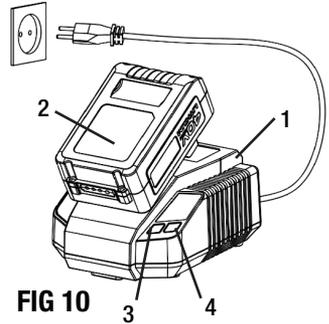

FIG 10
### CHARGING THE BATTERY (FIG 10)
- Plug the charger (1) into a 120 Volt AC power source. The green light (3) will illuminate for 5 seconds, then the light will go off if no battery pack in the charger.
- Slide the battery (2) all the way into the charger until it locks in place with a click, as shown in FIG 10. The flashing green light indicates that the battery is charging. A solid green indicates the battery is fully charged.
- The flashing red light (4) indicates the battery temperature is too high to be charged. Wait the battery cool down to start the charging.